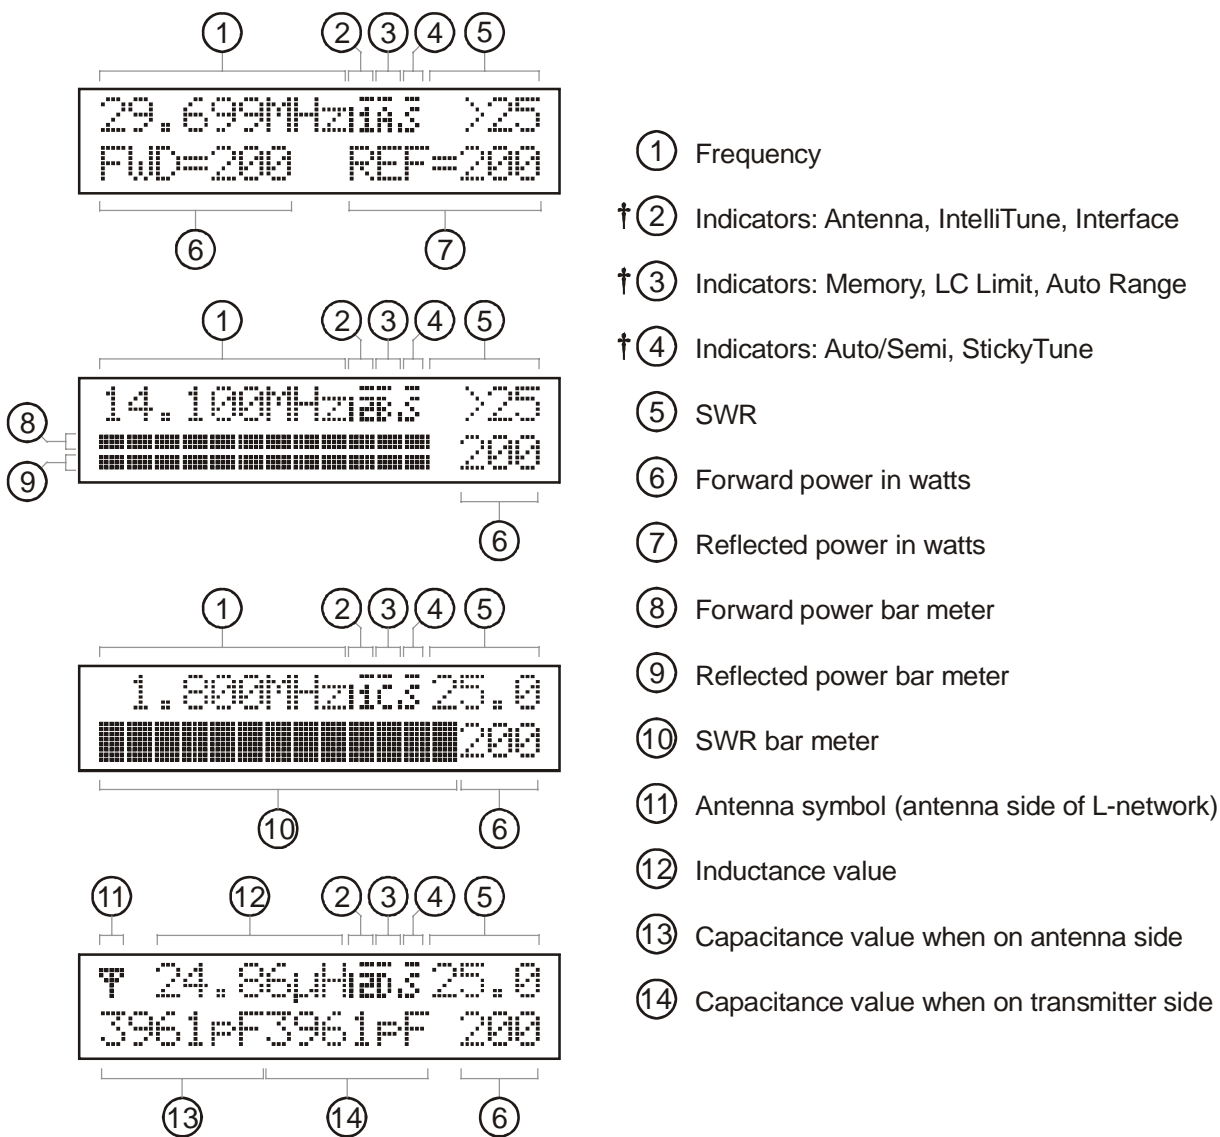
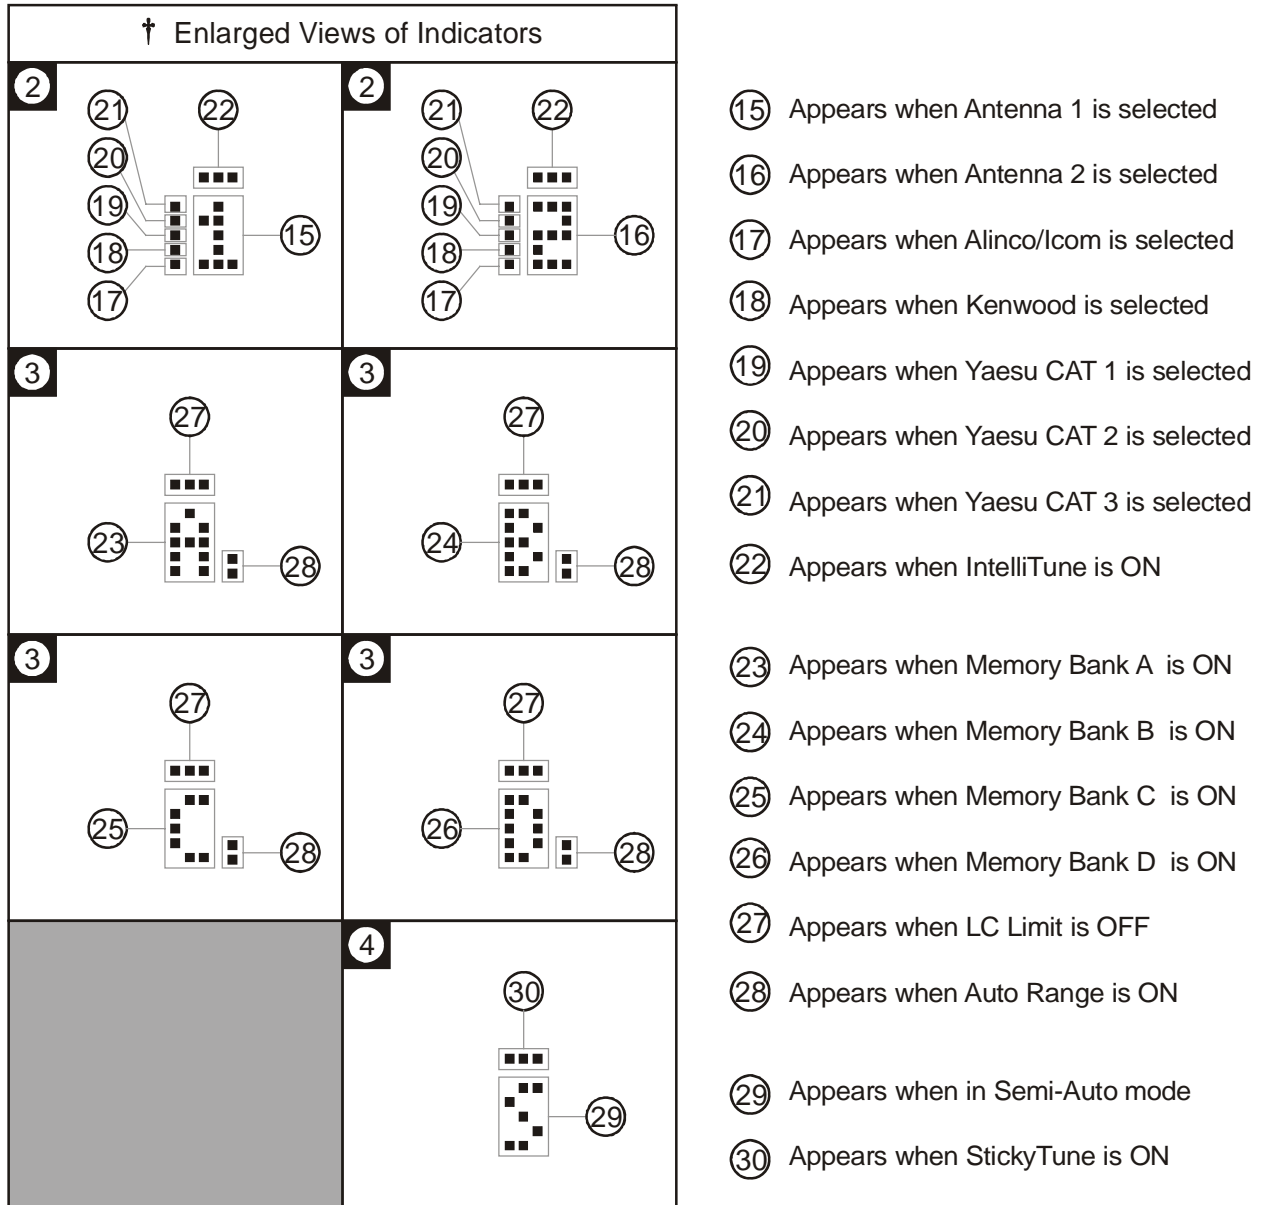

Figure 14. Main Mode Menus Display.
Figure 15. Tuner Indicators.
The main mode menus show various tuner settings and status. There are four main mode menus arranged in a “wrap-around” structure. When powered on, tuner operation starts with the main menu that was last used. Within each main menu, press the [MODE] button briefly to view the next main menu. Press and hold the [MODE] button for two seconds to enter the setup mode (see below). Various tuner indicators are shown on all four main menus: Antenna 1/2, IntelliTune™, Radio Interface, Memory, LC Limit, Auto Range, Auto/Semi, and StickyTune™. Refer to Figures 14 and 15 for details on the displayed information.
The power meter can be set to auto range. Auto range automatically sets the meter scale according to the input RF power to the tuner. Forward power greater than 20 watts automatically sets the meter to the high power range. Forward power less than 15 watts automatically set the meter to the low power range. When auto range is on, a two-dot vertical segment appears on the on-screen tuner indicator. Refer to Figures 14 and 15 for the on-screen Auto Range indicator.
Various tuner indicators are shown on the main menus to indicate tuner status. Refer to Figures 14 and 15 for locations of these indicators. The number enclosed within () is the item number of Figure 15.
- **Antenna:** A small “1” appears to indicate antenna 1 is selected (15); a small “2” appears to indicate antenna 2 is selected (16).
- **Radio Interface:** One dot appears on the left side of the Antenna indicator to indicate the selected radio interface (17-21). Refer to Figure 15 below.
- **IntelliTune:** When *IntelliTune*[™] is ON, a bar appears on top of the Antenna indicator (22).
- **LC Limit:** When LC Limit is OFF, a bar appears on top of the Memory indicator (27).
- **Auto Range:** When Auto Range is ON, a two-dot vertical bar segment appears on the lower left corner of the Memory indicator (28).
- **Auto/Semi:** A small “S” appears to indicate semi-automatic mode (29); nothing appears to indicate automatic mode.
- **StickyTune:** When *StickyTune*[™] is ON, a bar appears on top of the Auto/Semi indicator (30).
Allows you to select the meter scale range. In the 20 watts (low) range, the meter full scale is 20 watts (divide the power meter scale by 10). In the 200 watts (high) range, the meter full scale is 200 watts. Auto range automatically sets the meter scales according to the input RF power to the tuner. Forward power greater than 20 watts automatically sets the meter to the high power range. Forward power less than 15 watts automatically set the meter to the low power range. Refer to Figures 14 and 15 for the on-screen Auto Range indicator. Default is 200 watts range.
The memory resolution for non-amateur frequency bands between 160 and 10 meters is approximately 0.2 percent of the lower frequency of each band. There are over 2500 memory locations for each memory bank, and each antenna has four memory banks (A-D). Tuner settings are stored in memory separately for Antenna 1 and Antenna 2 (settings for single-wire antenna are stored as Antenna 1). This provides memory for up to eight different antennas. Refer to Figures 14 and 15 for the on-screen Memory indicator. Defaults are memory banks 1A and 2A ON.
the transmitting frequency, then it calculates the L/C components needed for a match. Then it fine-tunes the component values. If for any reason the tuner cannot calculate the load impedance, it proceeds to yet another method of calculation. If for any reason, this function can be turned off. Refer to Figures 14 and 15 for the on-screen *IntelliTune*[™] indicator. Default is ON.
The upper limits of inductance (L) and capacitance (C) are factory-limited according to frequency and maximum power rating; i.e., higher frequencies need less inductance and less capacitance when the L-network is properly tuned. Pressing [C-UP] and/or [L-UP] allows capacitance and inductance to be increased only to these limits. When a selected capacitance or inductance is higher than its allowed limit, and the frequency is changed, that selection is automatically reduced to the value of its limit. These limits are used to prevent matching of extreme load impedance outside the tuner’s specification, which may result in excess voltage and/or current across the tuner’s components. This setting is not stored in non-volatile memory and reverts back to the default when the tuner power is turned off. Refer to Figures 14 and 15 for the on-screen LC Limit indicator. Default is ON.